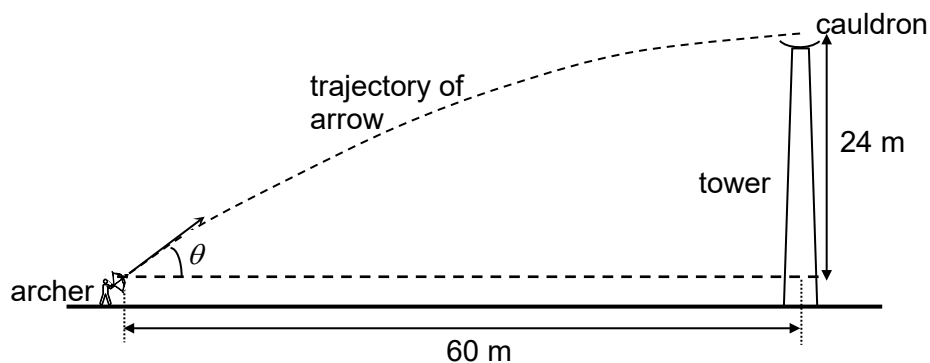

Fig. 2.1
- 2 (a) In the 1992 Barcelona Olympics opening ceremony, an archer stood at a distance of 60 m from the base of a tower. The archer shot a flaming arrow at an angle θ from the horizontal to light the Olympic cauldron on top of the tower that is 24 m above him. The flaming arrow lit the cauldron at the peak of its trajectory as shown in Fig. 2.1.